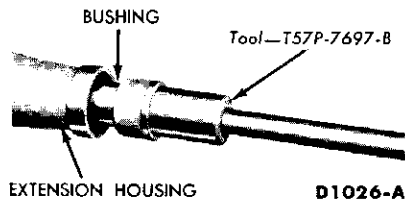

FIG. 4—Extension Housing Bushing Installation
3. When installing a new bushing use the special tool shown in Fig. 4.